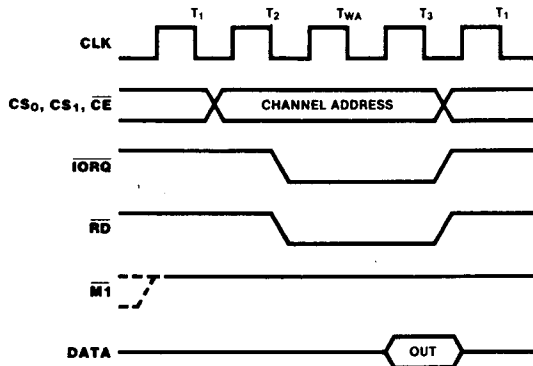

Figure 9. Read Cycle Timing
**Read Cycle Timing.** Figure 9 shows read cycle timing. This cycle reads the contents of a down-counter without disturbing the count. During clock cycle  $T_2$ , the Z80 CPU initiates a read cycle by driving the following inputs Low:  $\overline{RD}$ ,  $\overline{IORQ}$ , and  $\overline{CE}$ . A 2-bit binary code at inputs  $CS_1$  and  $CS_0$  selects the channel to be read.  $\overline{M1}$  must be High to distinguish this cycling from an interrupt acknowledge.